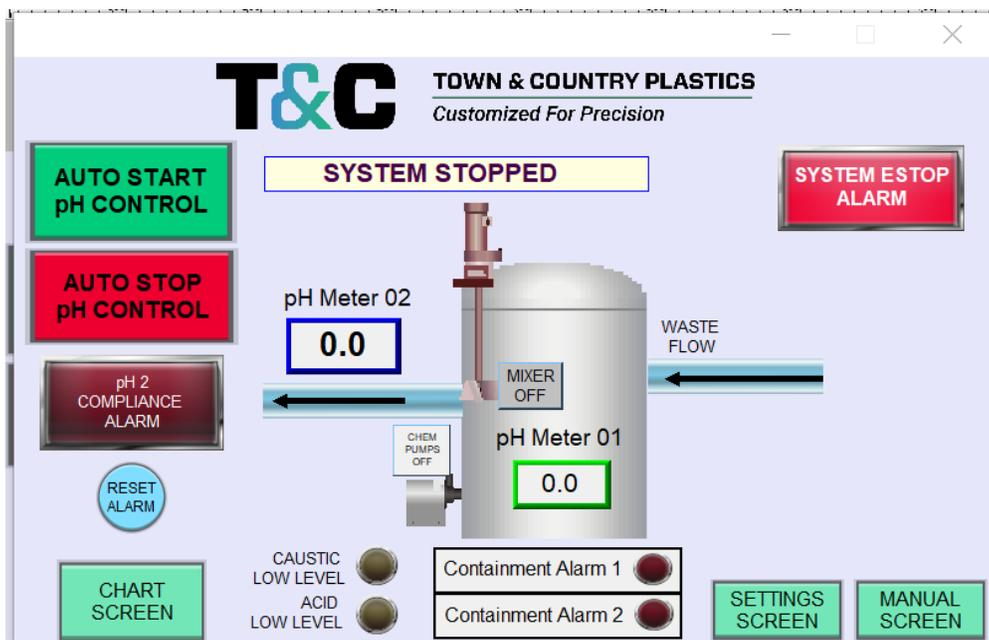

Figure 16
- 8.5. If pH2 value is outside the allowable limits beyond the Alarm Delay Timer the pH2 Compliance Alarm will appear on the screen (see figure 16) and the Alarm light will flash. The alarm can be reset but will reappear if pH3 remains outside the limits.